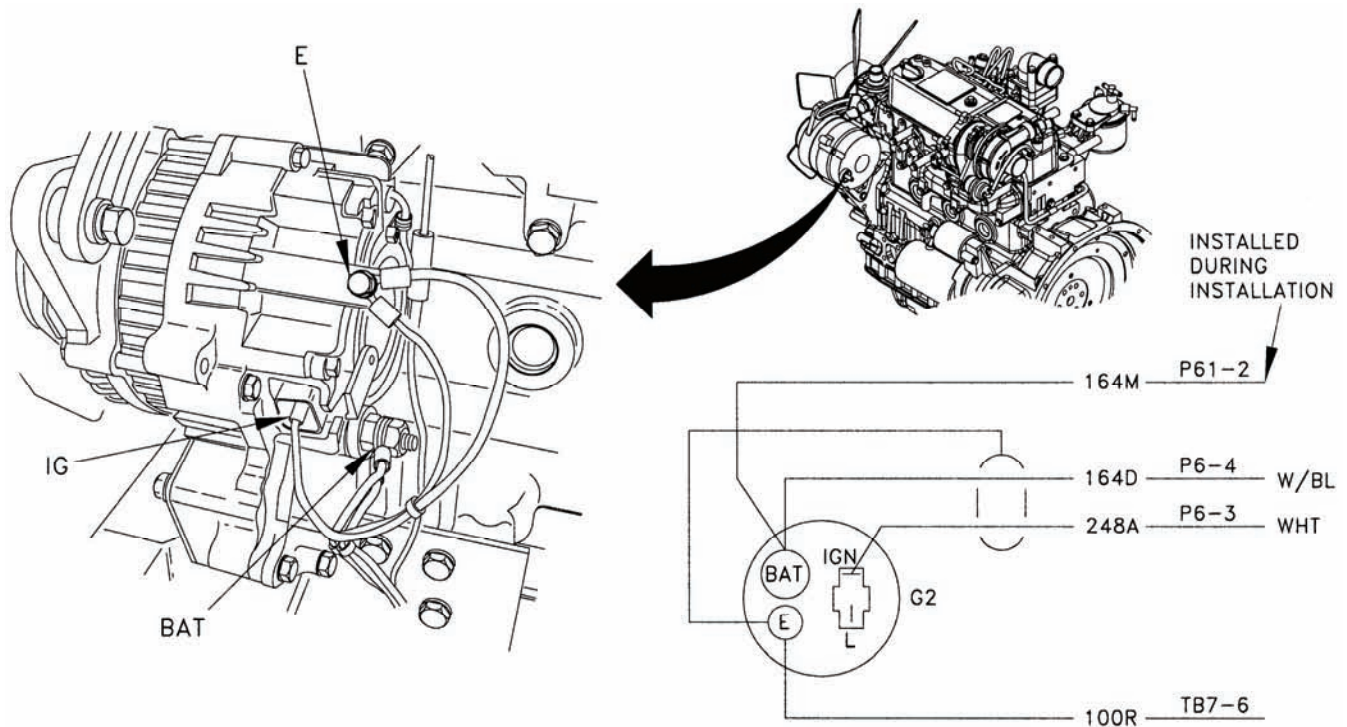

Figure 5-34. Battery Charging Alternator Wire Harness.
- g. Connect wire 100R16 and shield (blk/wht) of shielded cable to ground lug on body of battery charging alternator G2 per Figure 5-34 and wire markings.
- aj. Locate wire 164M16 (in P61) and route loose end to battery charging alternator G2. Connect wire 164M16 to G2 BAT connection (Figure 5-34).